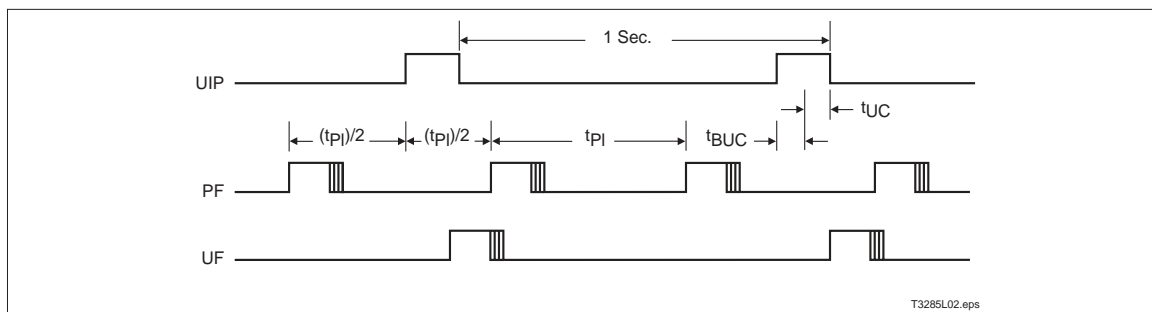

Figure 3. Update-Ended/Periodic Interrupt Relationship
- Enable the update interrupt event to generate interrupt requests at the end of the update cycle. The interrupt handler has a maximum of 999ms to access the clock bytes before the next update cycle begins (see Figure 3).
- Poll the update-in-progress bit (UIP) in register A. If $\text{UIP} = 0$, the polling routine has a minimum of t_{BUC} time to access the clock bytes (see Figure 3).
- Use the periodic interrupt event to generate interrupt requests every t_{PI} time, such that $\text{UIP} = 1$ always occurs between the periodic interrupts. The interrupt handler has a minimum of $t_{\text{PI}}/2 + t_{\text{BUC}}$ time to access the clock bytes (see Figure 3).